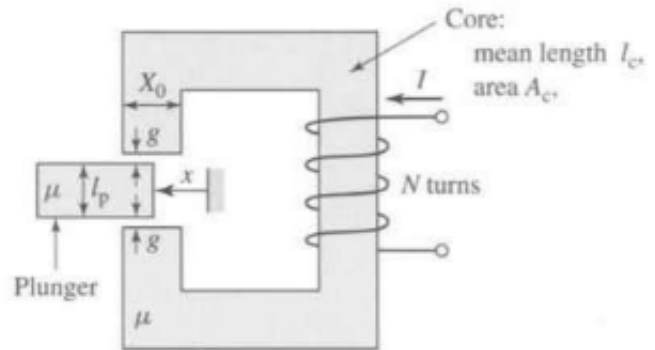

Figure 3
- **Question 7:** The magnetic circuit of Fig. 3 consists of a core and a moveable plunger of width l_p , each of permeability μ . The core has cross-sectional area A_c and mean length l_c . The overlap area of the two air gaps A_g is a function of the plunger position x and can be assumed to vary as